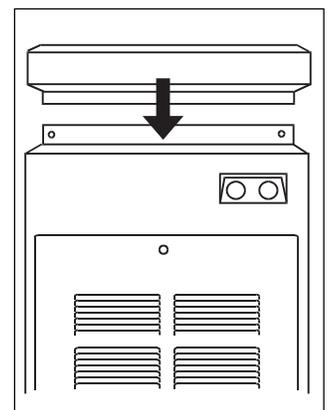

Figure 37. Installation of the Top of the Heater
9. Replace heater top and all eight screws (see Fig. 37).